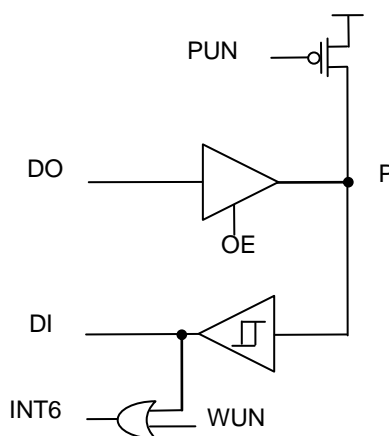

Figure11.1 Ports I/O block diagram
A9112 has 24 Digital I/O Pins. There are separated to 3 Ports (Port0, Port1 and Port3) and each of the Port pin can be defined as general-purpose I/O (GPIO) or peripheral I/O signals connected to the timers, UART, I2C and SPI functions. Thus, each pin can also be used to wake A9112 up from sleep mode. User can select each pin function by setting register. Each port has itself port register like P0 (0x80), P1 (0x90) and P3 (0xB0) that are both byte addressable and bit addressable. When reading, the logic levels of the Port's input pins are returned. Each port has three registers to setting Pull-up (PU), Output-enable (OE) and Wake-up enable (WUE). As shown the bellow block diagram, Fig. 11.1. Unused I/O pins should have a defined level and not be left floating. One way to do this is to leave the pin unconnected and configure the pin as a general-purpose I/O input with pull-up resistor.